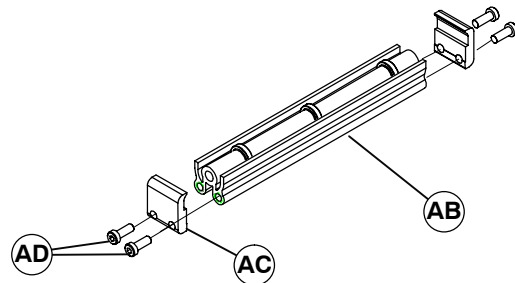

Figure 15
1. Typical return roller components (Figure 15)